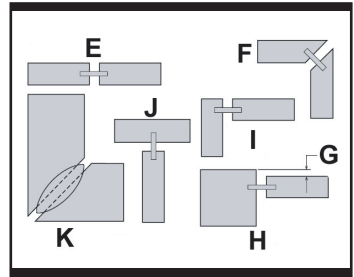

Fig. 7
4. CUTTING GROOVE JOINTS (See Fig.7)
The various adjustments on the adjustable height / angle stop will enable you to make virtually any biscuit joint imaginable. The tool may be further enhanced by some simple jigs and fixtures that can be easily made. Some of the more common biscuit joinery applications are shown in Fig.7.